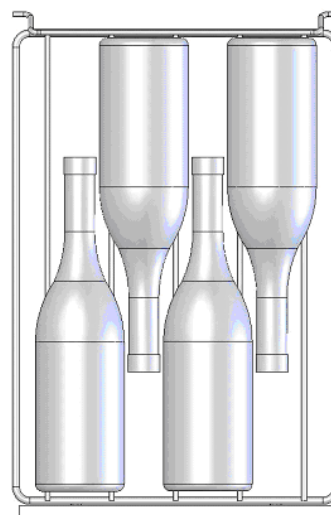

Figure 6
Since bottles are not stacked on top of each other, you can easily view and access your inventory without disturbing other bottles (see Figure 6).
The wine rack pull-out shelf holds eight (8) bottles. See Figure 6 for typical wine bottle orientation. The wine rack can be located at the middle or bottom part of the interior cabinet. For red wines, place wine shelf at bottom shelf position in the cabinet. Then put a glass shelf in the next higher position. For white and sparkling wines, put the wine shelf on the middle shelf position in the cabinet. Place the remaining shelves as desired (see Figure 7). Also, there is a fixed, wooden, bottle cradle in the bottom, step section of the cabinet. Six (6) bottles may be stored there.